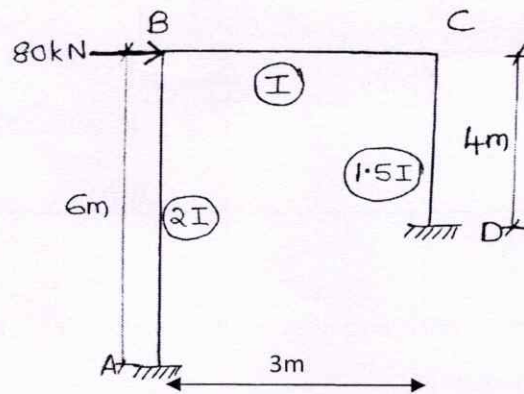

Fig. 5
- 5 a) Analyse the portal frame in Fig. 5 using moment distribution method. (15)
- 6 a) Analyse the frame in Fig. 5 using Kani's method. (15)